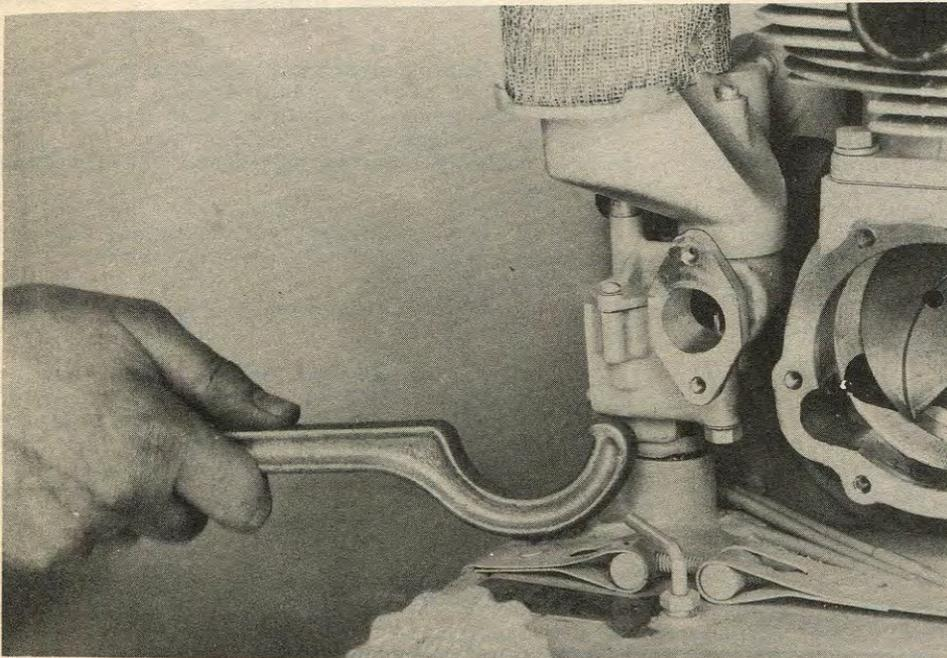

Figure 11-
(f) Remove carburetor by prying loose with spanner No. 19439 (figure 11). Cover up carburetor fitting on top of fuel container to prevent foreign matter from falling in container. (For instructions on dismantling carburetor, see following paragraph (3).)